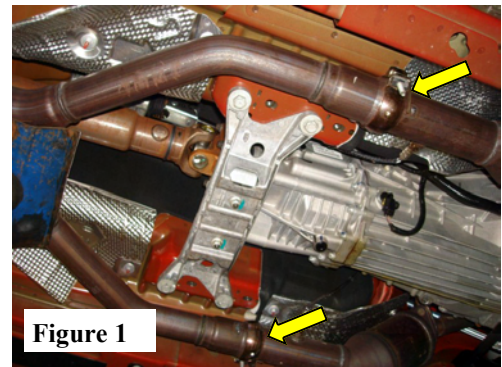

Figure 1
1. Loosen front ball clamps in front of H-Pipe. (See Fig.1)